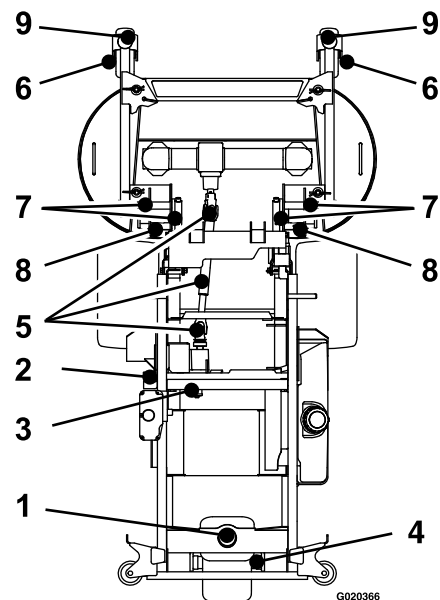

Figure 29
5. Lubricate the pump belt idler arm (Figure 29).